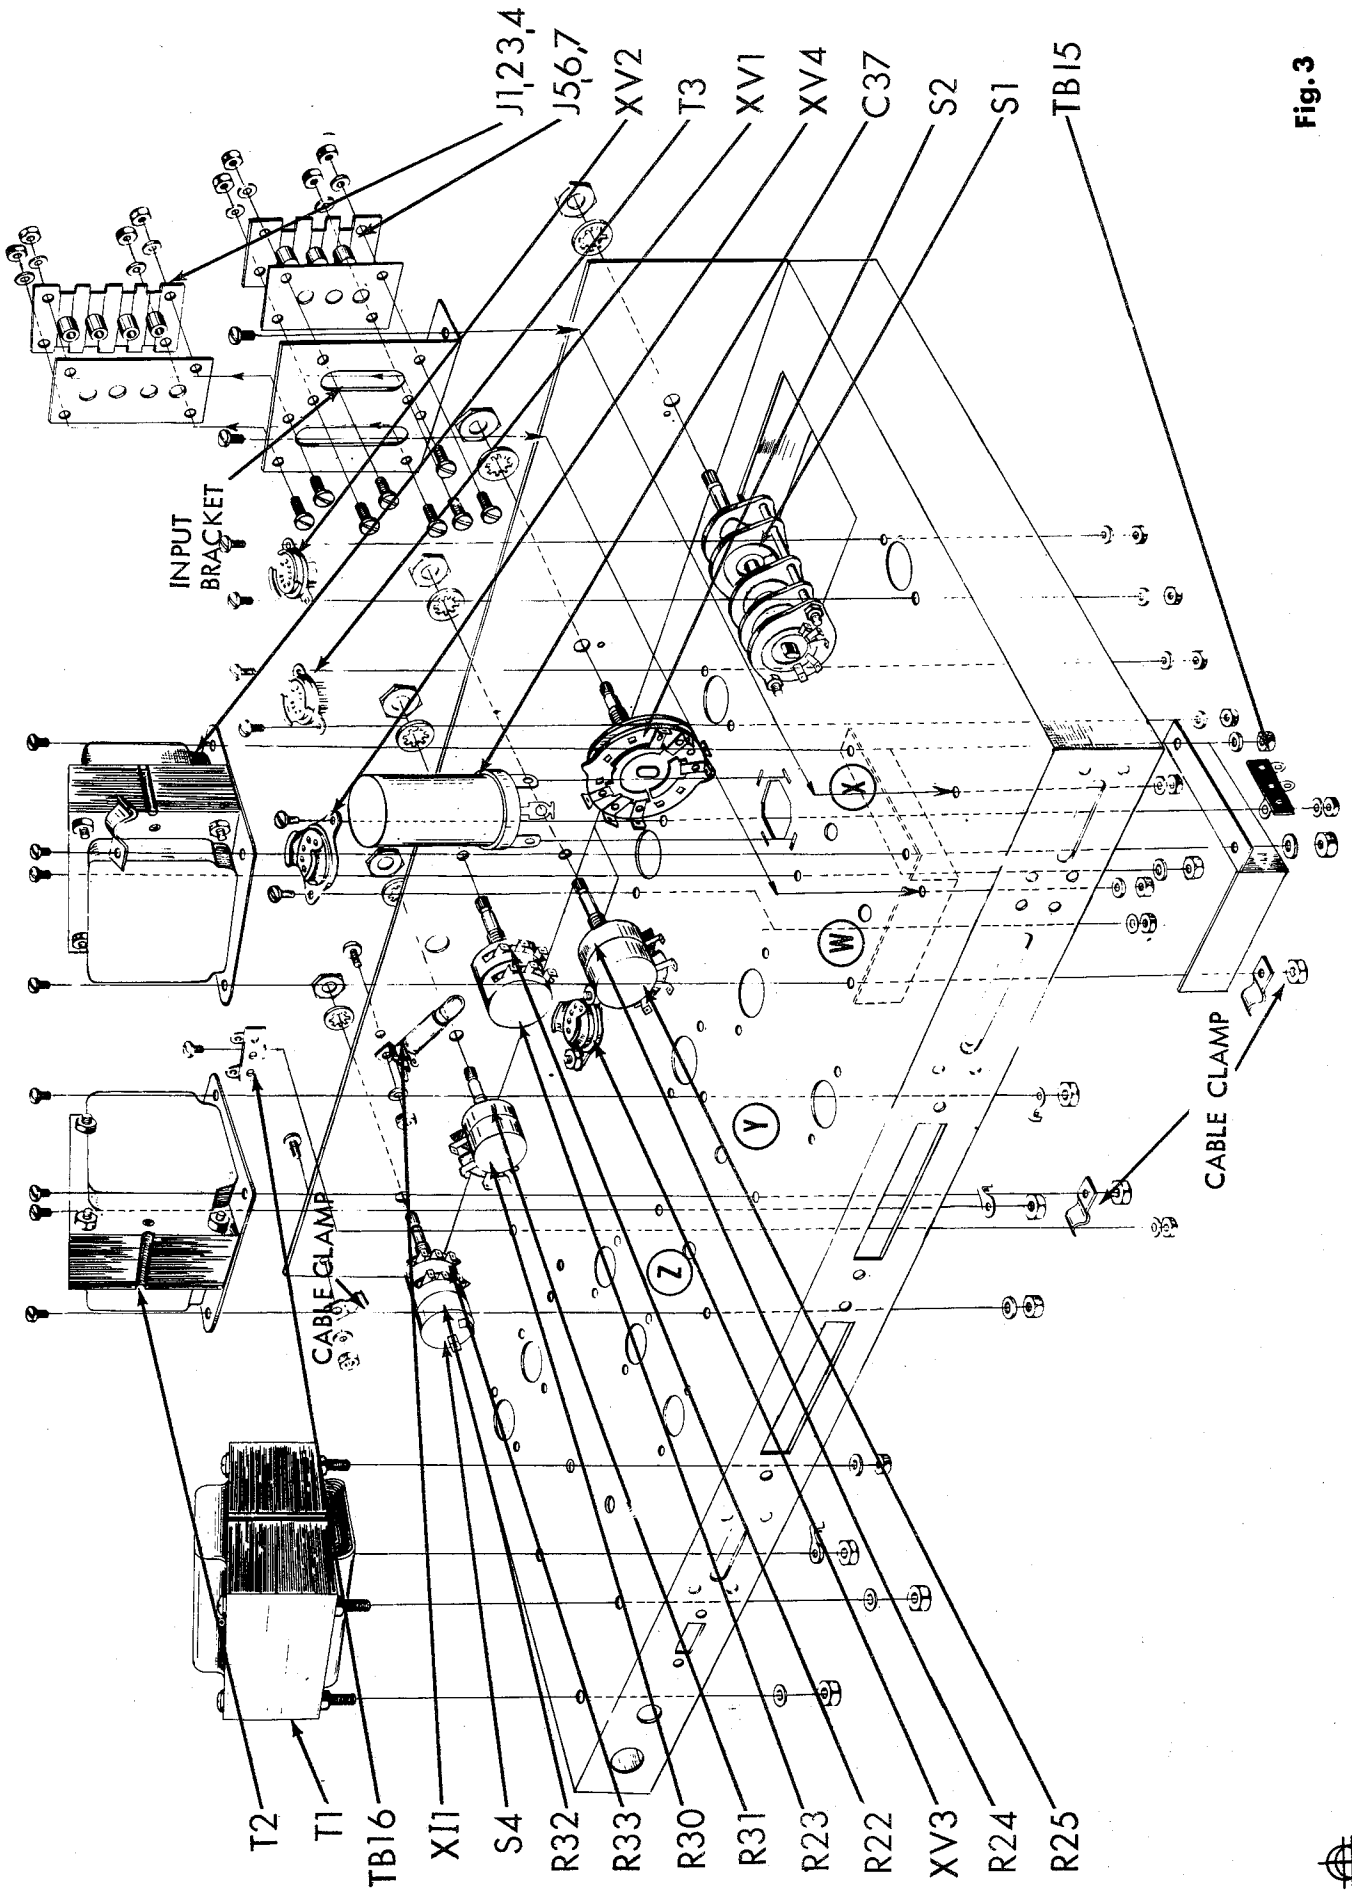

Fig. 3
1. (✓) Fig. 3. Mount the 9 pin miniature tube socket with shield support, XV2, from the top of the chassis. Use two #4-40 screws, two #4 lockwashers, and two #4-40 hex nuts. Note mounting direction in figure 6.
2. () Fig. 3. Similar to the above, mount the 9 pin miniature tube socket with shield support, XV1 and XV3, from the top of the chassis. Use two #4-40 screws, two #4 lockwashers and two #4-40 hex nuts on each. Note mounting direction figure 6.
3. () Fig. 3. Similar to the above, mount the 9 pin miniature tube socket with shield support, XV4, from the top of the chassis. Use two #4-40 screws, two #4 lockwashers and two #4-40 hex nuts. Note mounting direction in figure 6.
4. (✓) Fig. 3. Mount the dual concentric treble control potentiometer with on-off switch, R32, R33, S4, as shown. Slide the locating lug on the potentiometer into the small hole adjacent to the mounting hole. Use one 3/8 lockwasher and one 3/8 hex nut (stock # 18047).
5. (✓) Fig. 3. Mount the dual concentric bass control potentiometer, R30, R31, as shown. Slide the locating lug on the potentiometer into the small hole adjacent to the mounting hole. Use one 3/8 lockwasher and one 3/8 hex nut (stock # 18048).
6. (✓) Fig. 3. Mount the dual 250KΩ level control potentiometer, R24, R25, as shown. Slide the locating lug on the potentiometer into the small hole adjacent to the mounting hole. Use one 3/8 lockwasher and one 3/8 hex nut (stock # 18046).
7. (✓) Fig. 3. Mount the dual 750KΩ focus control potentiometer, R22, R23 into the small hole adjacent to the mounting hole. Use one 3/8 lockwasher and one 3/8 hex nut (stock # 18045).
8. (✓) Fig. 3. Mount the function selector switch, S2, as shown. Slide the locating lug on the switch into the small hole adjacent to the mounting hole. Use one 3/8 lockwasher and one 3/8 hex nut.
9. () Fig. 3. Mount the input selector switch, S1, as shown. Slide the locating lug on the switch into the small hole adjacent to the mounting hole. Use one 3/8 lockwasher and one 3/8 hex nut.
10. (✓) Fig. 3. Mount the two post terminal strip, TB16, as shown. Use one #6-32 screw, one #6 lockwasher and one #6-32 hex nut.
11. (✓) Fig. 3. On the power transformer, T1, cut both green leads, the red-yellow lead and the white lead to 2 1/2"; both yellow leads to 3 1/2"; both red leads and both black leads to 5 1/2". Mount the power transformer as shown. Position so that the green and yellow leads face the center of the chassis (see figure 6). Use three #8 lockwashers and three #8-32 hex nuts on three of the screws. On the fourth screw, use one #8 grounding lug and one #8-32 hex nut.
12. (✓) Fig. 3. On the output transformer, T2, cut the black, brown, green, orange and yellow lead to 4". Cut the blue, red and brown-yellow lead to 3". Mount the output transformer as shown. Push the red, blue and brown-yellow leads through hole "Z" nearest the power transformer mounted in step 11. Push the other leads through the hole "Y". Use four #8-32 screws, one #8 lockwasher, two #8 ground lugs, and one cable clamp. Secure each with a #8-32 hex nut. Slide all leads from hole "Y" under the cable clamp before tightening. See Fig. 8.
13. (✓) Fig. 3. On output transformer, T3, cut the orange, yellow, red and green leads to 6". Cut the brown lead to 5". Cut the blue and brown-yellow leads to 4". Push the red, blue and brown-yellow leads through hole "X". Push the other leads through hole "W". Use four #8-32 screws, three #8 lockwashers and four #8-32 hex nuts. Under two of the lockwashers, mount the shield. Under the nut without the lockwasher, mount the cable clamp. On the top of the chassis, mount a cable clamp under one of the screw heads. Do not tighten this screw yet. Run all leads from hole "W" under the cable clamp under the chassis in the direction shown in figure 8. Tighten all nuts except the one holding the clamp on the top side of the chassis.
14. (✓) Fig. 3. Mount the electrolytic can capacitor, C37, as shown. In figure 6, note the direction of the half moon, square and triangle near lugs to determine direction of mounting. Insert the mounting tabs into the slots in the chassis and twist the tabs somewhat less than a quarter turn. DO NOT twist the tabs excessively or they will shear off. Solder the tab without a hole to the chassis at its slot.
15. (✓) Fig. 3. Insert the pilot light, I1, into the pilot light assembly, XII. Screw the assembly to the chassis as shown using one #6-32 screw, one #6 lockwasher and one #6-32 hex nut. Tighten the mounting screw and nut after the pilot light has been lined up with the hole in the front chassis apron.
16. (✓) Fig. 3. Mount the input bracket as shown. Use two #6-32 screws, two #6 lockwashers and two #6-32 hex nuts. Follow arrows to mounting holes.
17. () Fig. 3. Mount the four terminal input strip, J1, 2, 3, 4, as shown. Use four #6-32 screws, four #6 lockwashers and four #6-32 hex nuts. Use a four hole insulator between the input strip and the input bracket.
18. () Fig. 3. Mount the three terminal input strip, J5, 6, 7, as shown. Use four #6-32 screws, four #6 lockwasher and four #6-32 hex nuts. Use a three hole insulator between the input strip and the input bracket.
19. (✓) Fig. 3. Mount the cable clamp on the upper left hand corner of the front apron, as shown. Use one #8-32 screw, one #8 lockwasher and one #8-32 hex nut.